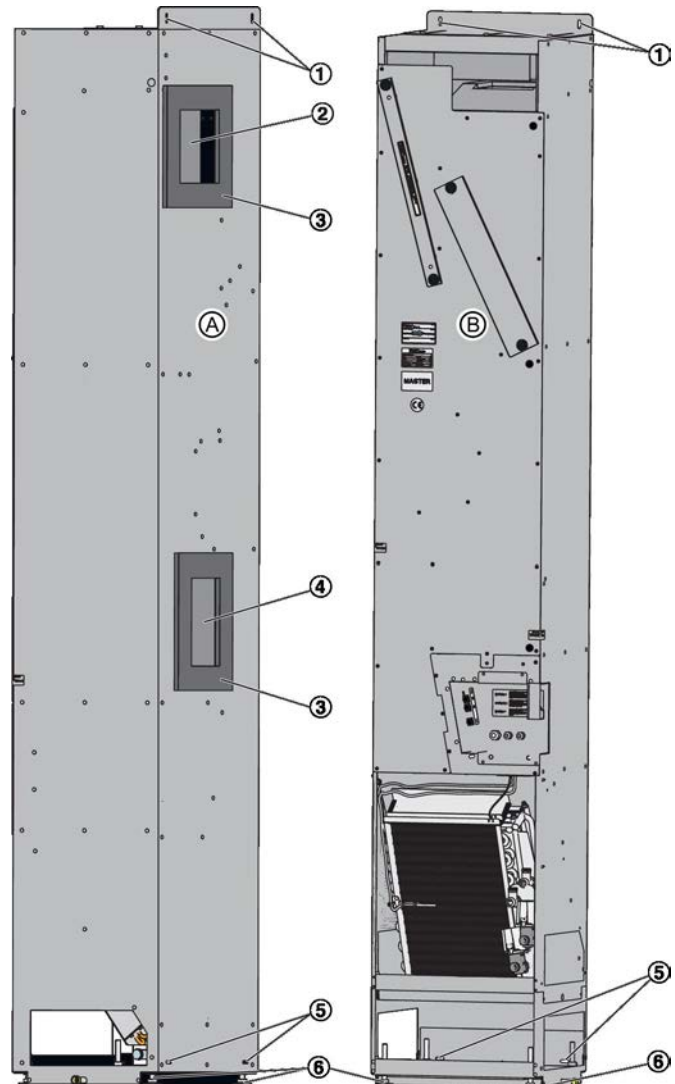

Fig. 3: Installation
1. ▶ Place the unit in such a way that the wall side (Fig. 3/A) faces the wall. The openings for the air (Fig. 3/2 and Fig. 3/4) must be aligned with the prepared openings in the external wall; adjust the feet if necessary.
2. ▶ Use suitable screws (Ø 6 mm) for the provided fixing holes (Fig. 3/1 and Fig. 3/5) to fix the unit to the external wall.